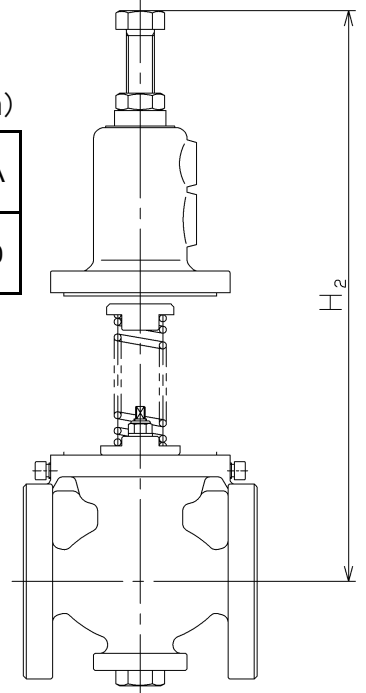

Fig. 12
- (17) To maintain easily, install a drainpipe between stop valve and primary pressure regulating valve.
- (18) Above the center of the pipe line, be sure to reserve space larger than H₂(Fig.12). Please see the Table 10.
- (19) Before performing the water pressure test, close the stop valves upstream and downstream of the product.